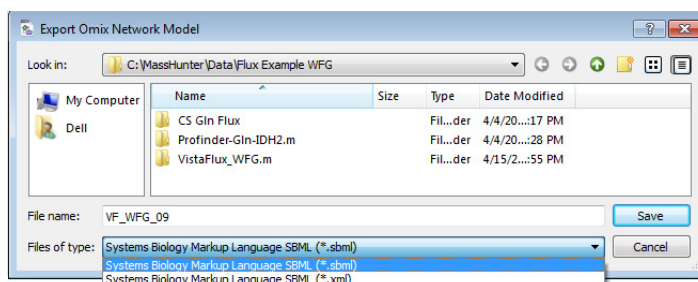

Figure 147 File types in the *Export Omix Network Model* dialog box
- Select the file type to export your file (Figure 147).